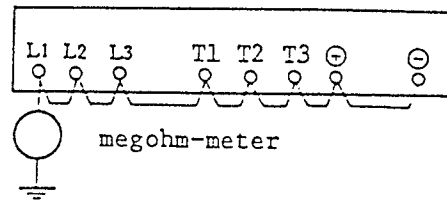

Figure 7-1 Terminal Connection for Insulation Resistance and Withstand Voltage Tests
- (1) Routine check
- (2) Periodical check (yearly)
- (3) Insulation resistance and withstand voltage test
- To conduct insulation resistance and withstand voltage tests, connect the terminals as shown in Figure 7-1 and perform measurements under the following conditions:
- Measure the resistance between a terminal and the ground with a 500 VDC megohm-meter as shown in Figure 7-1. Confirm that the inverter withstands 5 M Ω or more.
- Apply 2000 VAC, between a terminal and ground for one minute as shown in Figure 7-1. Confirm that there is no abnormality.
- Do not perform insulation resistance and withstand voltage tests for the terminals not shown in Figure 7-1 such as printed circuit board.